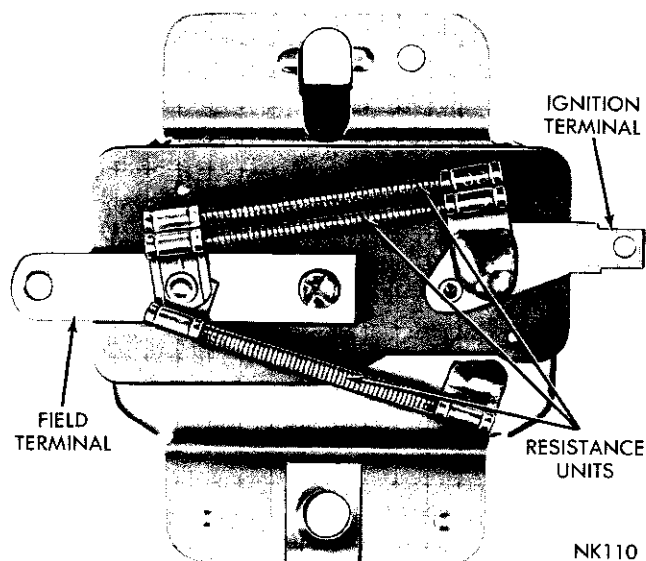

Fig. 6—Voltage Regulator Resistance Units
Three resistance units are used (Fig. 6). Resistor
(1) When the battery line voltage is relatively low, the current flow through the voltage coil will be low. The magnetic force (or pull) of the voltage coil will not be great enough to overcome the regulator armature spring tension, which is holding the armature contact against the upper stationary contact, (Fig. 6).